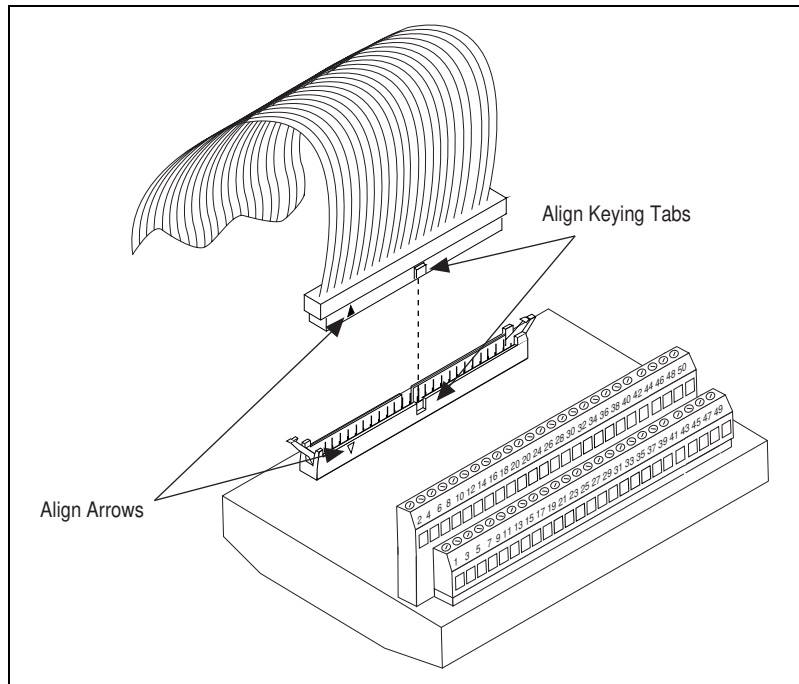

Figure 7. Connecting the Cable to the Connector Block
6. Plug one of the 50-pin connectors on the free end of a ribbon cable into one of the connector blocks. Align the tabs and arrows as shown in Figure 7.